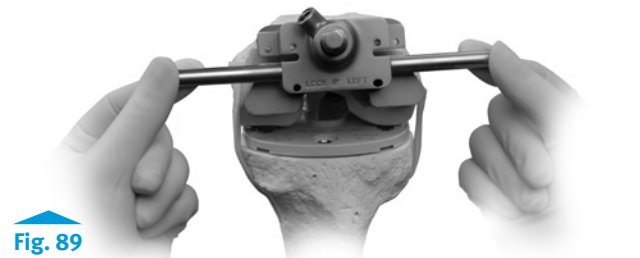

Fig. 89
- Slide the femoral guide assembly over the reamer or Stem Extension Provisional assembly and rotate the guide until the Mini Handles are aligned with the epicondylar axis (Fig. 89).